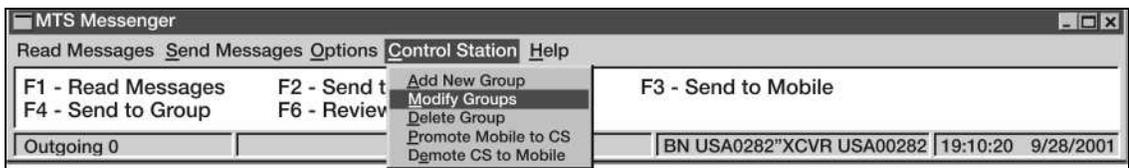

Figure 3-105. Modify Groups Menu
- (1) To Modify Existing Groups, Select Control Station from the MTS Messenger menu (see Figure 3-105).